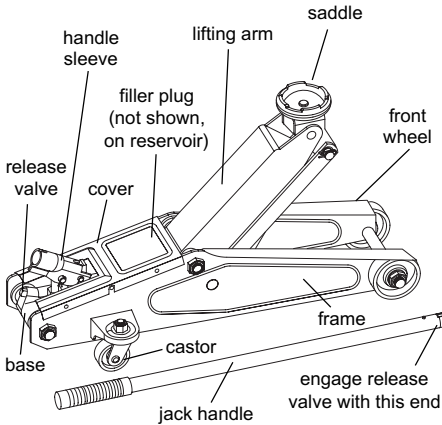

FIG. 1
Compare Fig. 1 illustration with your jack BEFORE operation to become familiar with the location of various jack components.
- With notched end of the jack handle (see Fig. 1) close release valve by turning the handle clockwise.